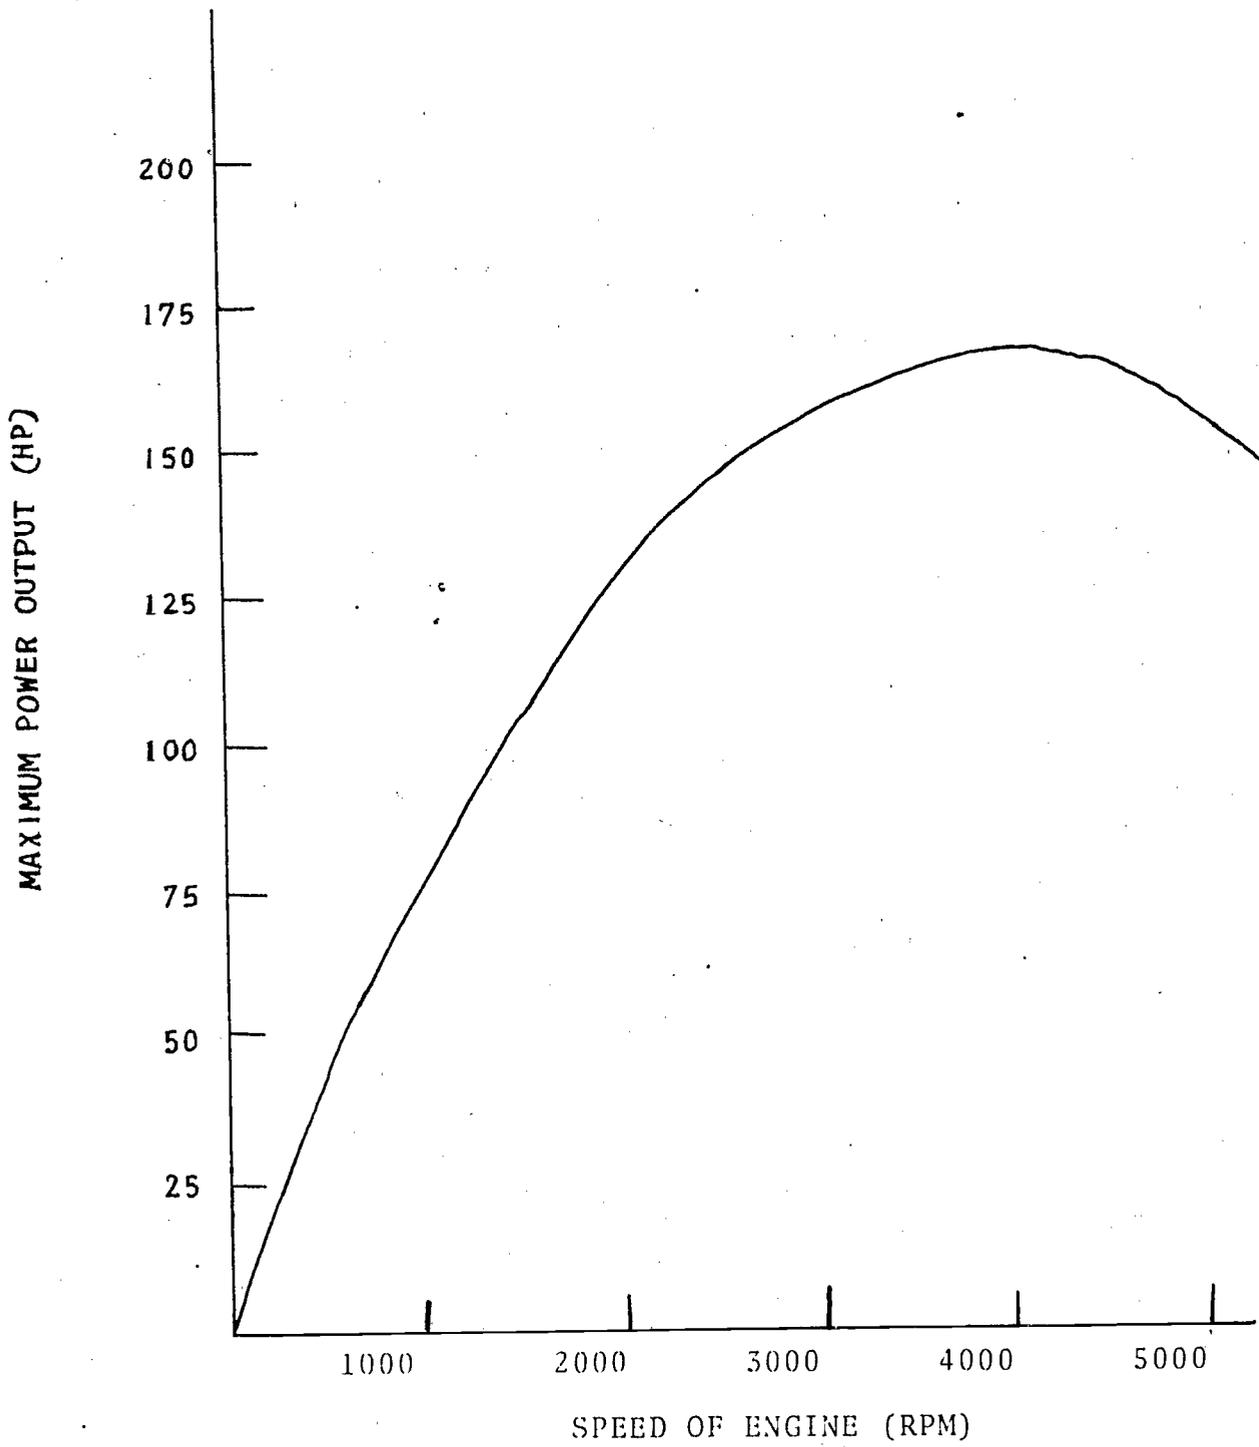

FIGURE 2
The second step is to establish a scale along each of the axes. The scale will be determined, of course, by the values of the quantities being plotted. There are several factors to consider in choosing the scales. Consider Figure 2 illustrating the graph of the power output versus the speed of an engine.
- (a) The scale for the independent variable (the quantity that the investigator controls) is placed along the horizontal axis. The axis is then labeled with the quantity being scaled and the units in which that quantity is being measured. In Figure 2, the horizontal axis is labeled "SPEED OF ENGINE (RPM)." The speed of the engine is the quantity; it is measured in rpm's or revolutions per minute.
- (b) The scale for the dependent variable (the quantity that changes as the independent variable is varied) is placed along the vertical axis. In Figure 2, the vertical axis is labeled "MAXIMUM POWER OUTPUT (HP)." The quantity being scaled is the maximum power output; it is measured in hp, or horsepower.
- (1) In Figure 2, why is the engine speed scaled on the horizontal axis?
- (2) In Figure 2, why is the maximum power output scaled on the vertical axis?
- (3) In Figure 2, why is the horizontal axis scaled such that one major division equals 1,000 rpm?
- (4) In Figure 2, why is the vertical axis scaled such that one major division equals 25 hp?
Answers to questions three and four should reveal the magnitudes of the scales are chosen so that the graph will fill allotted space. In the Figure 2 example, data indicated that the maximum value of engine speed was 5000 rpm and the maximum power output approached 175 hp. Thus, the scales were chosen to spread the data over the entire sheet of graph paper.